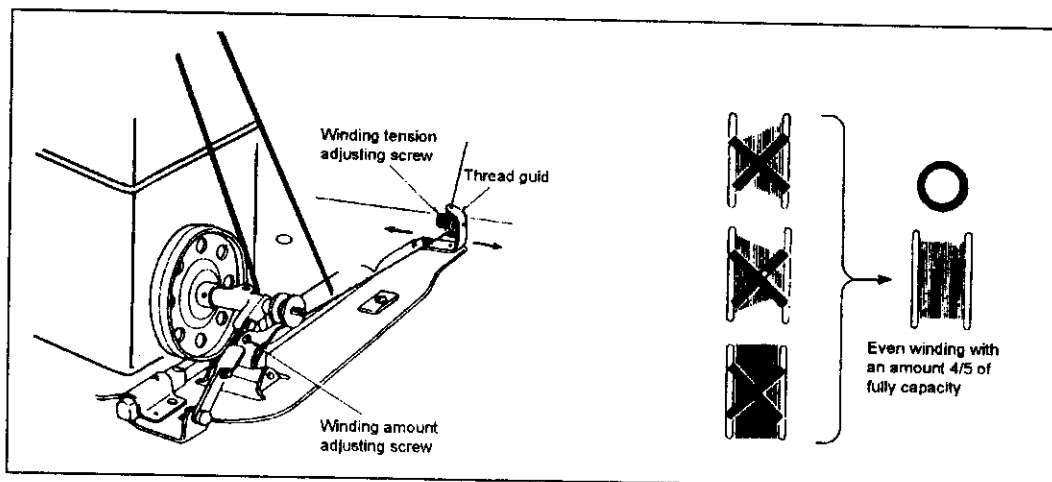

Fig.17
17. How to wind the lower thread (Fig.17):